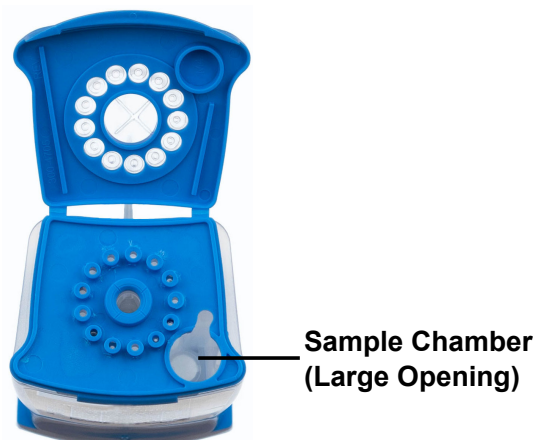

Figure 12. Xpert Xpress CoV-2 plus Cartridge (Top View)
11. To transfer the sample to the cartridge, squeeze the top bulb of the pipette completely again until it is fully flat to empty the contents of the pipette (300 µL) into the large opening (Sample Chamber) in the cartridge shown in Figure 12. Some liquid may remain in the overflow reservoir. Dispose of the used pipette.